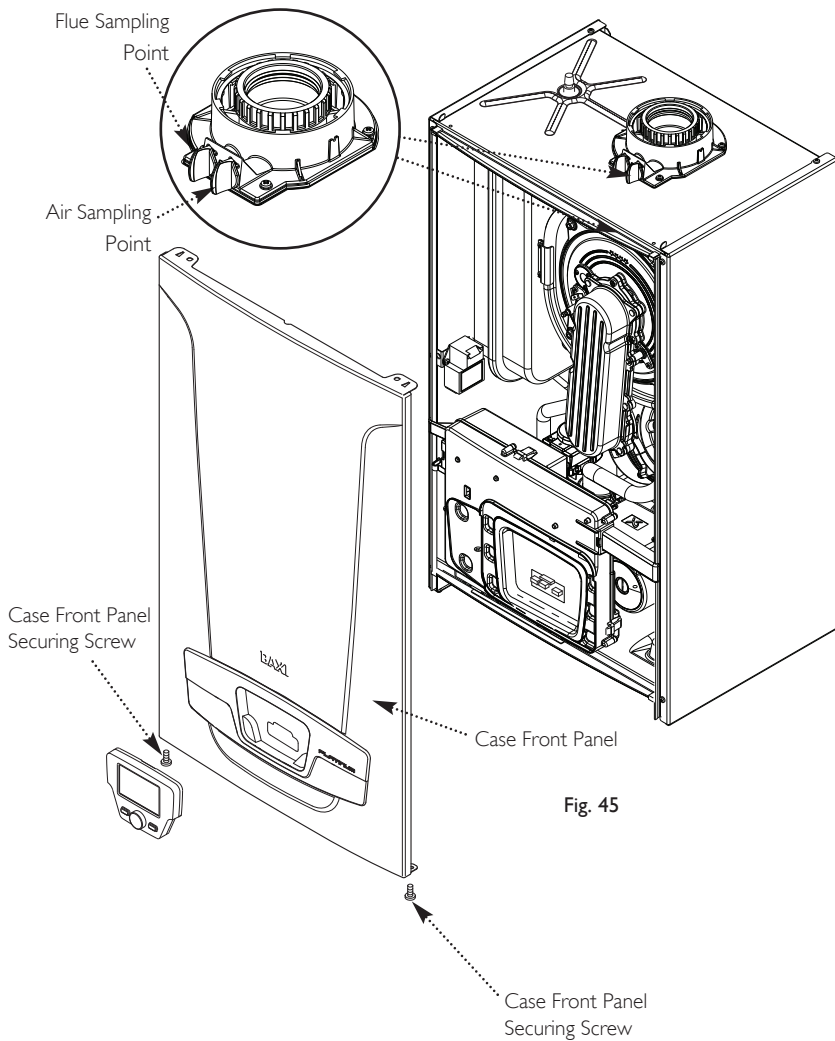

Fig. 45
3. Remove the screws securing the case front panel. Lift the panel slightly to disengage it from the studs on top of the case (Fig. 45) and hinge down the Control Box.